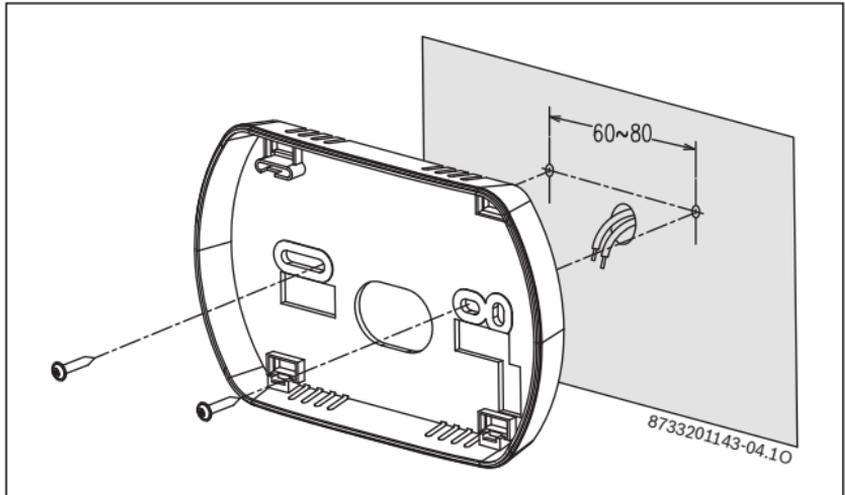

Fig. 4
- ▶ Drill two holes from cable entries on the wall (space between hole centers is 60~80mm), fill the fitting expansion pipes, and then use fitting screws (PA4*30mm) to fix the back cover, (→see Fig. 4).